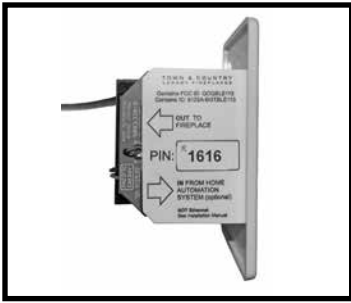

Figure 3: Wall switch - electronics side.
3. Wall mounted Remote Control Receiver (Figure 3) & (Figure 4).